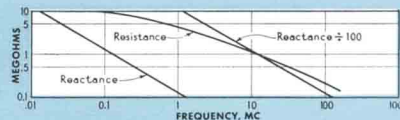

Figure 3. Input characteristics
**Input Impedance:** Input capacity is 1.3 mmfd; input resistance is 10 megohms at low frequencies. At high frequencies resistance drops off due to dielectric losses. (See Fig. 3.) Dc input resistance is 100 megohms for all ranges.